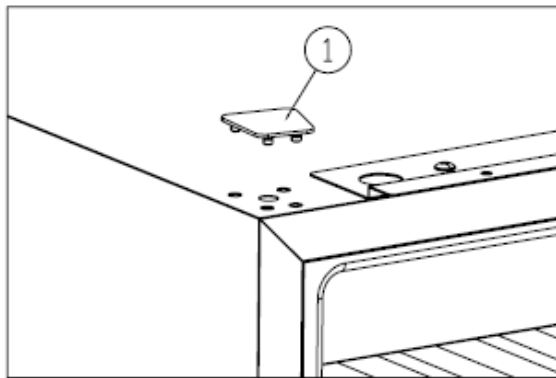

Figure 3
- ✦ Remove the germinal lid ①. [Figure 3]